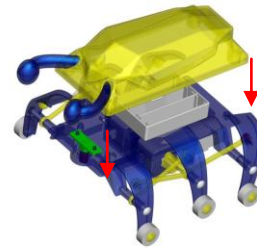

Fig. 14
12. Attach the body frame (10) in step 3 onto the chassis, as shown in Fig. 14. Done!